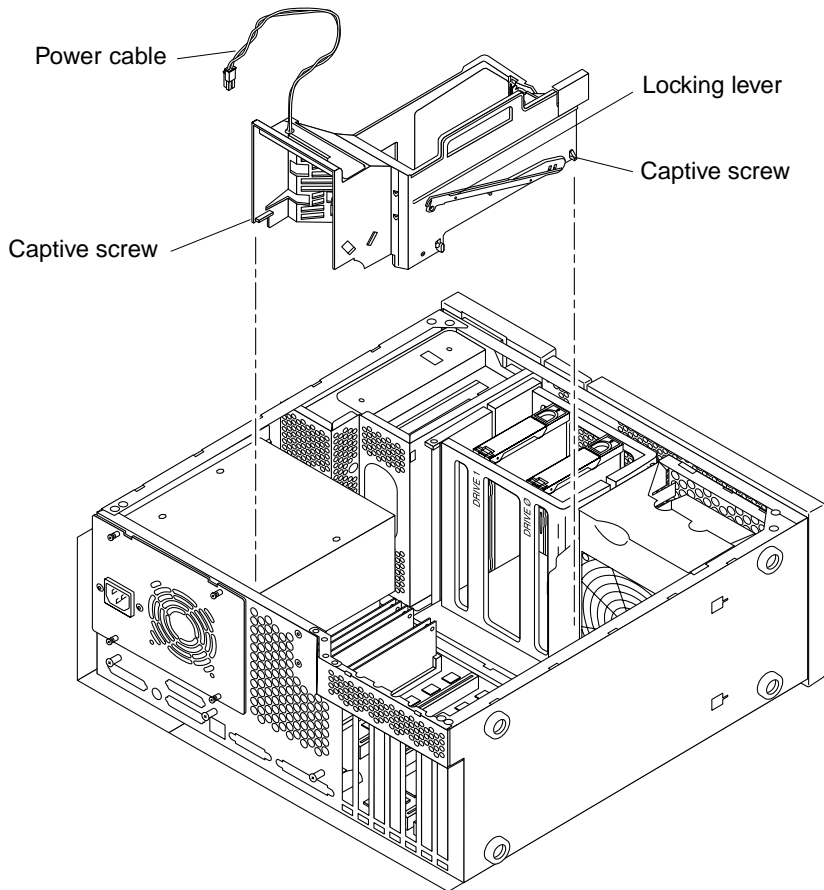

FIGURE 8-25 Removing and Replacing the Shroud Assembly
5. **Disconnect the shroud assembly as follows (FIGURE 8-25):**
- 2. Connect the shroud assembly as follows (FIGURE 8-25):**